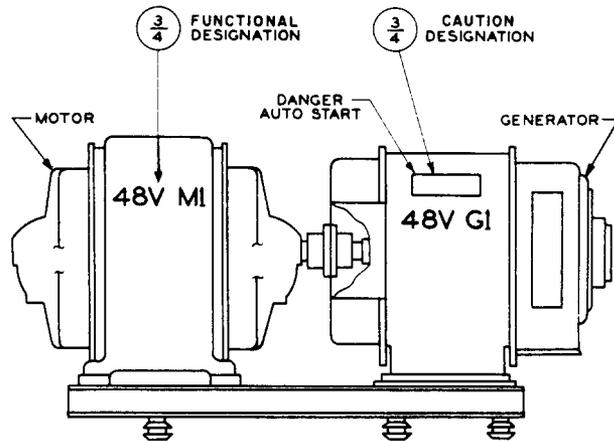

Fig. 41 - Motors and Generators - Floor Mounted
etc, when mounted on the floor or on a table shall be placed on the aisle side in an easily observable location similar to Fig. 41 and 42. With floor-mounted machines use 3/4-inch designations, and for machines on tables the size shall be 3/8 inch. For a machine, panel or shelf mounted, use 3/8 inch. (See Fig. 49.) If this conflicts with numbering called for in machine KS specifications, the size provided by the specification shall be used. (If number plates are provided, this designation will not be stamped.)
2.59 Machines which may start automatically, with the exception of those covered by the specifications listed in Table A, shall be designated in a conspicuous location (usually adjacent to the functional designation) with the caution DANGER AUTO START unless there is a caution plate giving this information. Characters shall be the same size as those of the functional designation. They shall be stamped in black on a rectangular, vermillion background. Size of background will be governed by the size of the characters stamped thereon. Where a set has two or more units, for example, motor and generator, the caution should be placed on the generator rather than the motor, since the generator has a more suitable surface for stamping. The "conspicuous location" requirement should be met in all cases. (See Fig. 41 and 42.)